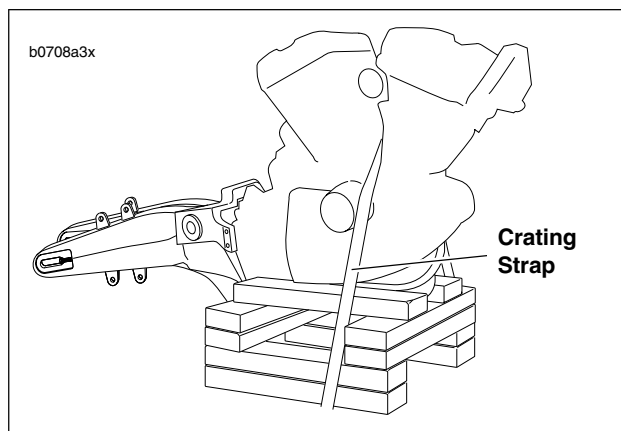

Figure 3-2. Supporting the Engine
13. See Figure 3-2. Place a wooden cradle underneath the crankcase.
1. See Figure 3-2. Place engine crankcase on supports so frame may be installed over the top of the engine.